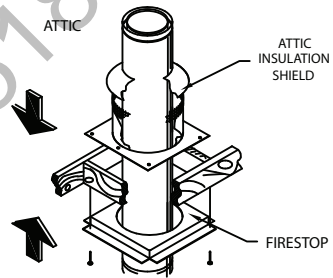

Figure 9
- c. Slip the Attic Insulation Shield over the Chimney until the base sits squarely on the framed opening (**Fig. 9**).